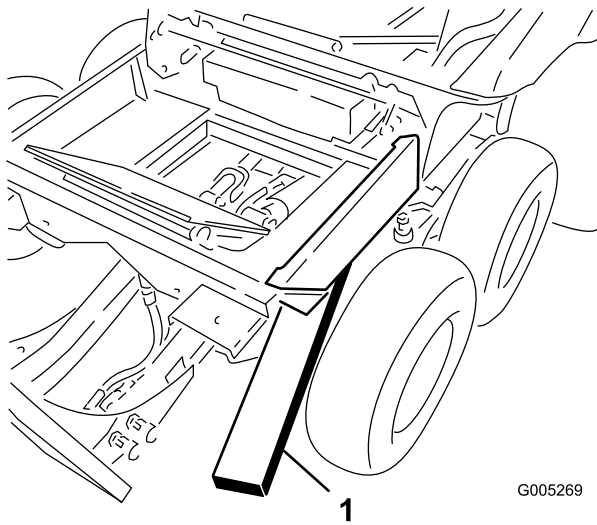

Figure 41
1. Insert a 2 x 4 between the front bogie stop and the frame to tilt the winter frame toward the rear (Figure 41).